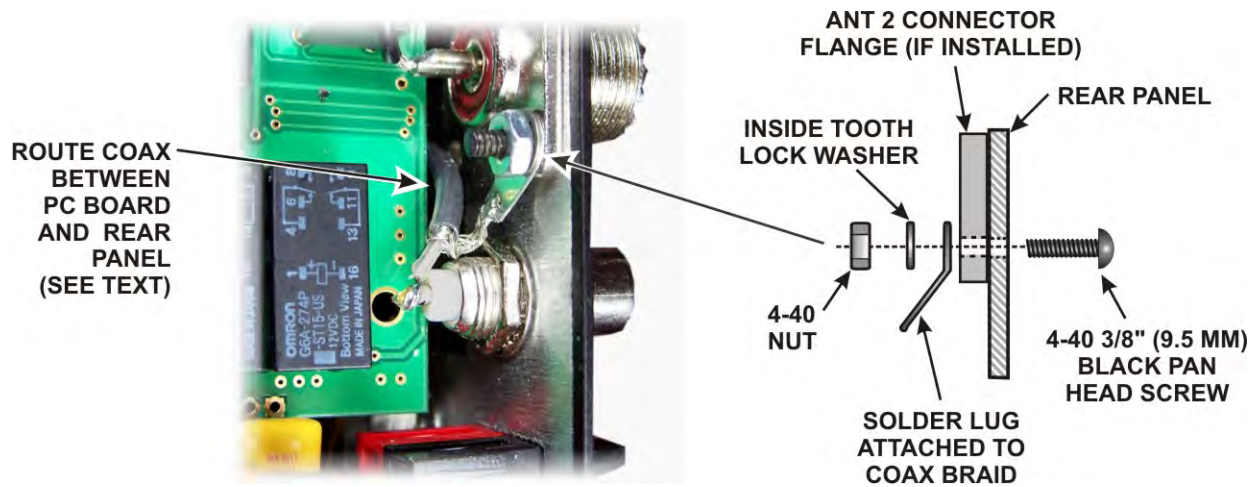

Figure 34. Installing AUX RF Connector, Part 2
- Mount the solder lug attached to the braid as shown in Figure 34, using a 4-40 3/8" (9.5 MM) black pan head screw, #4 inside tooth lock washer and 4-40 nut. If you do not have a KAT3 installed, there will be no connector in the ANT2 hole. In that case, the solder lug is directly against the unpainted inside surface of the rear panel.